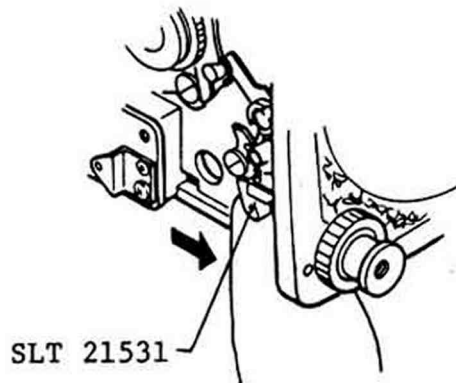

Fig. 12
- 1) Install the (15) SLS13101 Winding base unit :
- b. While pushing and holding SLT21531 Release lever in direction shown by the arrow with right hand thumb, put the winding base unit on the body and hold it left hand as shown in Fig. 12.